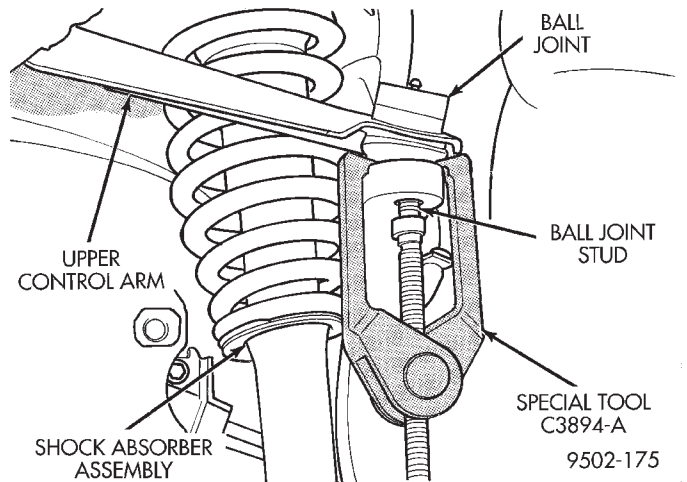

Fig. 13 Ball Joint Stud Removal From Steering Knuckle
(5) Remove the upper ball joint stud from the steering knuckle using Puller, Special Tool, C-3894-A (Fig. 13). Pull steering knuckle outward and position toward the rear of the front wheel opening.